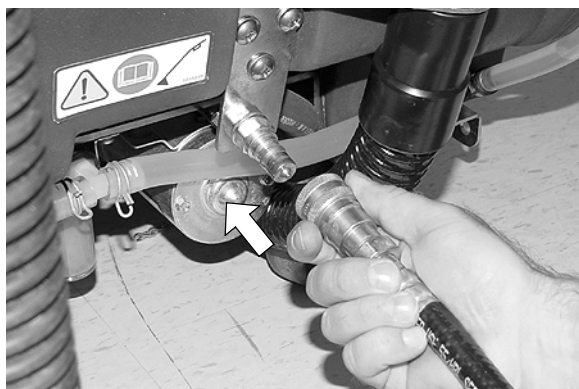

FIG. 15
2. Connect the accessory tool's solution hose to the coupler located at the rear of the machine (Figure 15).